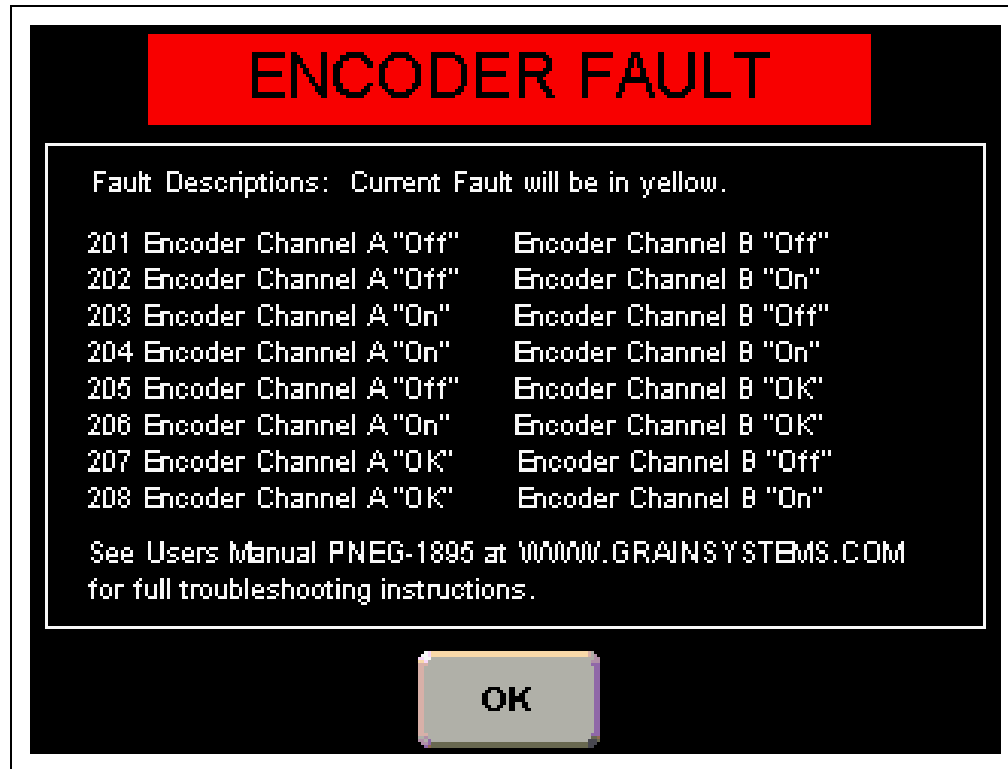

Figure 4U Encoder Fault Screen
**Encoder Fault:** Displays the “Encoder Fault” screen which displays fault codes and solutions for faults related to the function of the encoder during movement. (See Figure 4U on Page 35.)